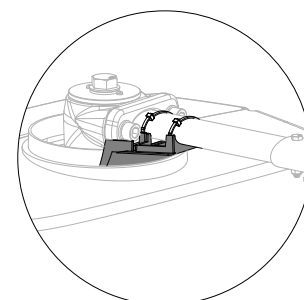

Figure 32. Wrap the Zip Ties Around the Arm
4. Trim the ends of the zip ties. (Figure 32.)
5. Slide the top cap shield against the opening in the back cover and then pull it away less than 1/8 in. (Figure 32.)